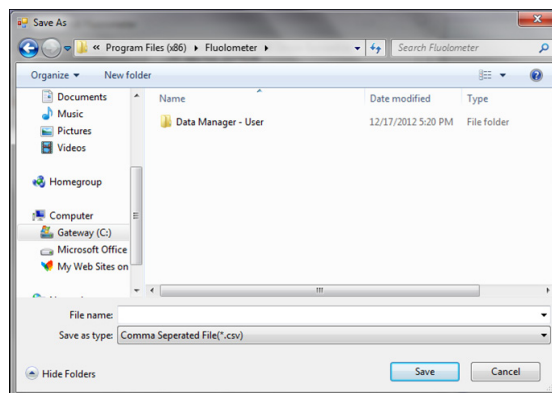

Figure 11. Save As window
- Click "Save Data" to bring "Save As" window as shown in Figure 11. Type in the file name to save data into \*.csv format file which can be opened in Microsoft Excel spreadsheet.